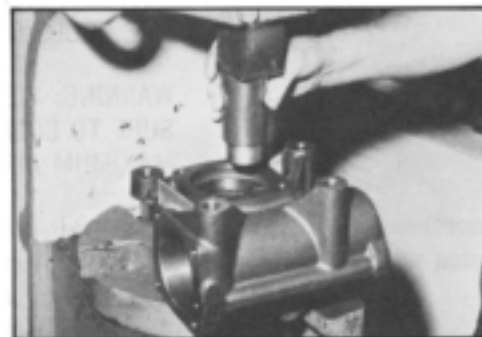

Figure 86
37. The housing bearing assembly (57) should only be removed if you determine that only the bearing must be replaced after following housing inspection procedures 6, 7, and 8. Place a suitable bearing mandrel that will clear the retaining ring (56) inside diameter to apply pressure from the side cover opening and press the bearing assembly out through the trunnion cover opening. SEE FIGURE 86. Maintain a good square contact between housing and press base to avoid damaging the housing bearing bore. Discard bearing. Do not remove retaining ring (56) unless it must be replaced.